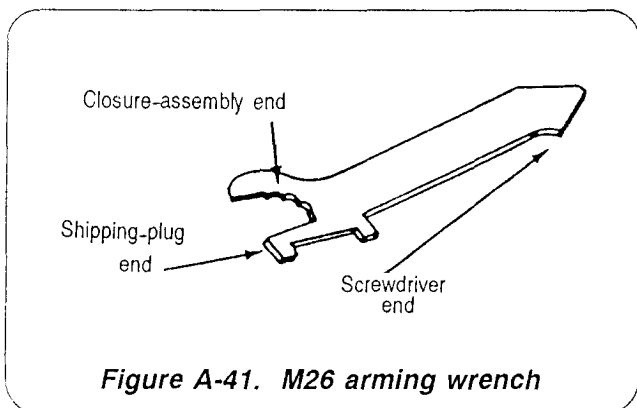

Figure A-41. M26 arming wrench
a. Use a screwdriver end of an M26 wrench to remove the closing plug from the bottom of the mine (Figure A-41).